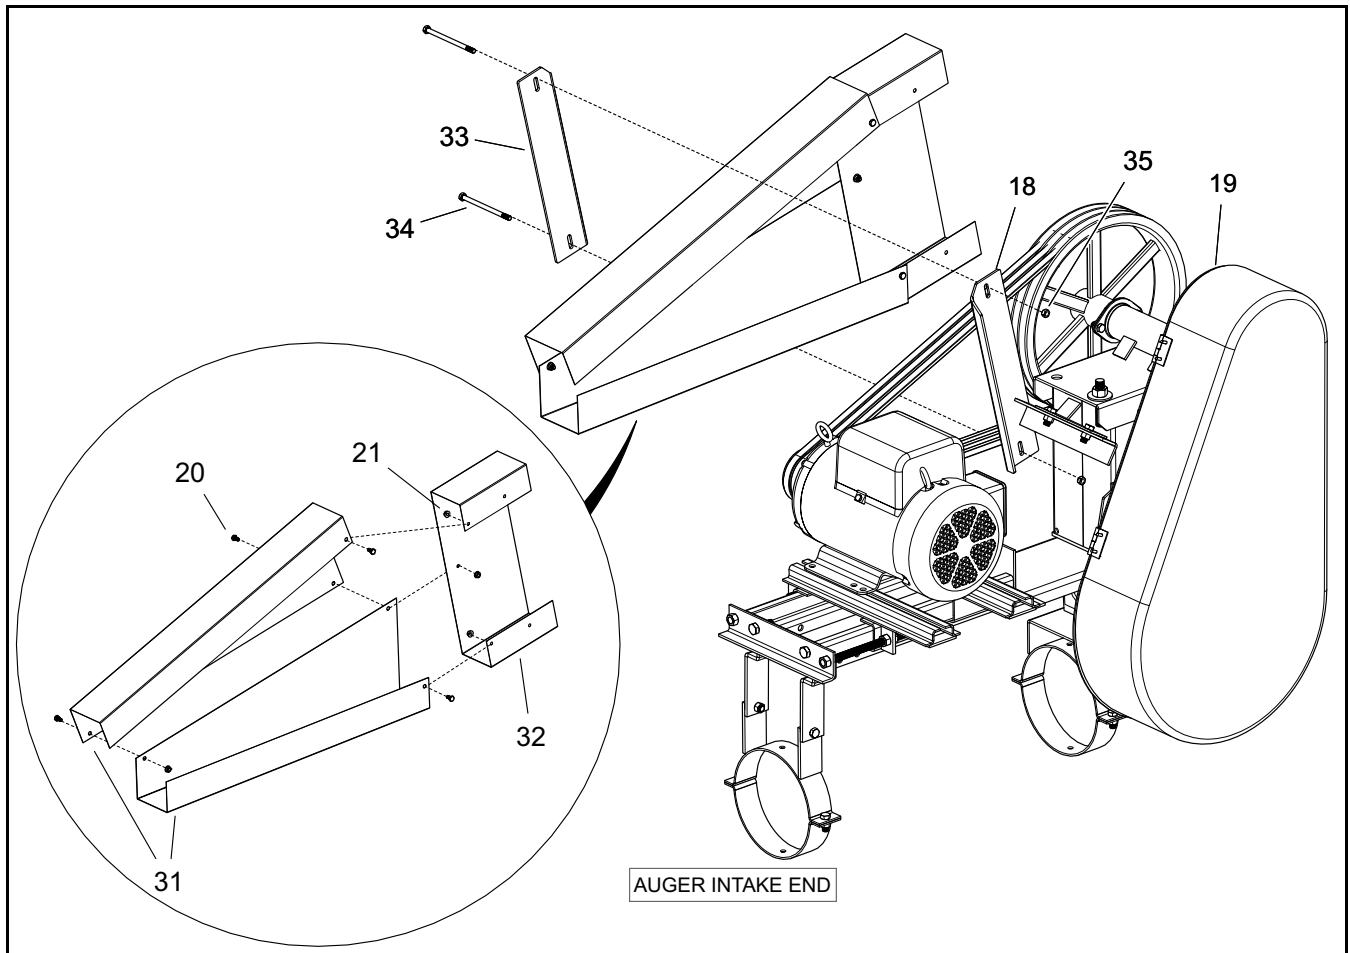

Figure 5 Installing Two-Piece Pulley Guard and Extension
18. Adjust the pulley backplate (19) to make sure it will not rub on the electric motor shaft. Tighten the backplate mount bolts/nuts securely.
20. Assemble the adjustable two-piece pulley guard (31) and guard extension (32) using four 1/4" x 1/2" bolts (20) and 1/4" whiz nuts (21) as shown in Figure 5.
21. Attach the pulley guard to the left-hand pulley guard bracket (18) with a flat iron strap (33) and 5/16" x 6" bolts (34) and 5/16" locknuts (35).